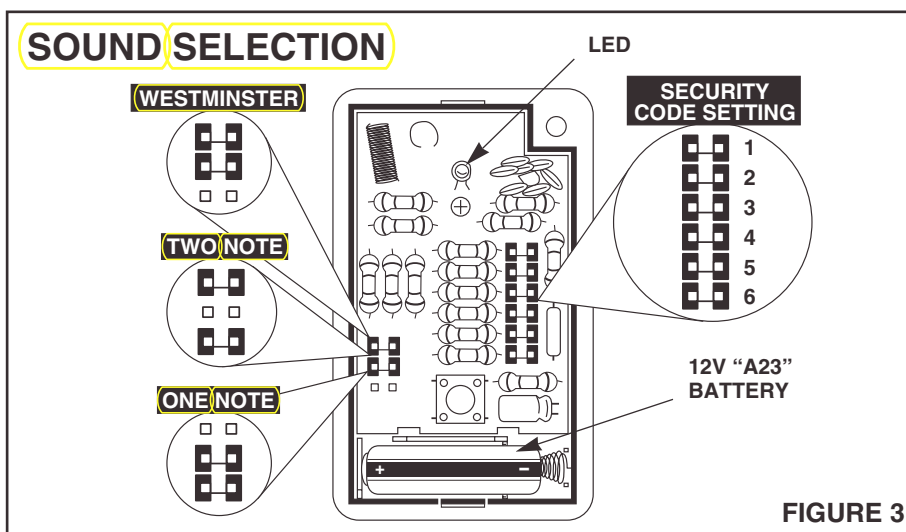

FIGURE 3
Refer to Figure 3.
2. Select the desired sound as illustrated in Figure 3.